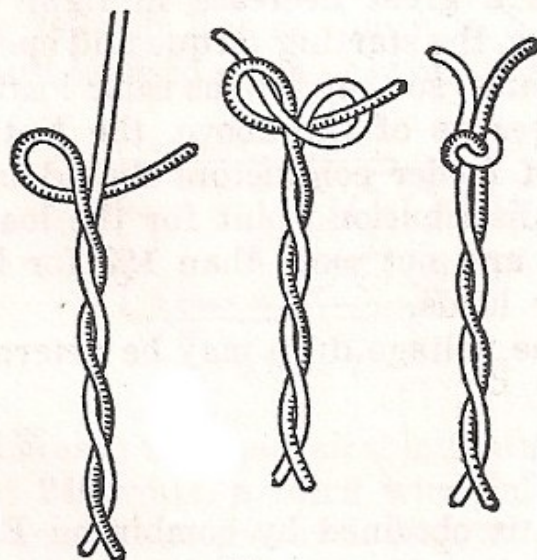

FIG. 3-5
**Underwriter's Knot.**—The portion of a cord extending within a socket, plug, or fitting should be installed so that any stress imposed on it will not be transmitted to joints or binding screws. This condition is fulfilled by tying an underwriter's knot at the end of the cord, as shown in Fig. 3-5. Such a knot can stand considerable stress without injury to the insulation.